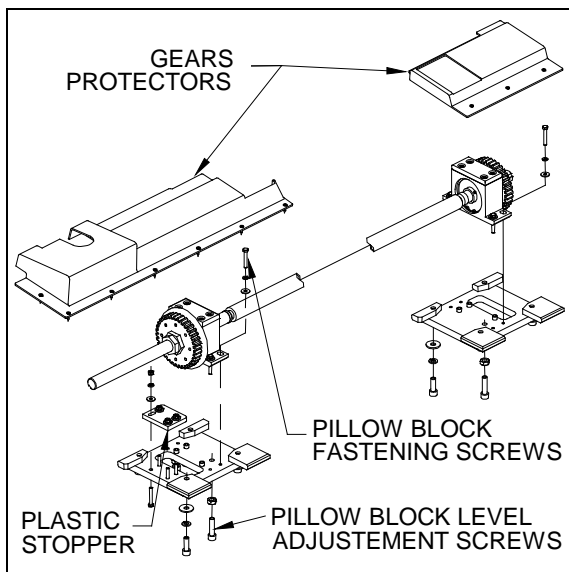
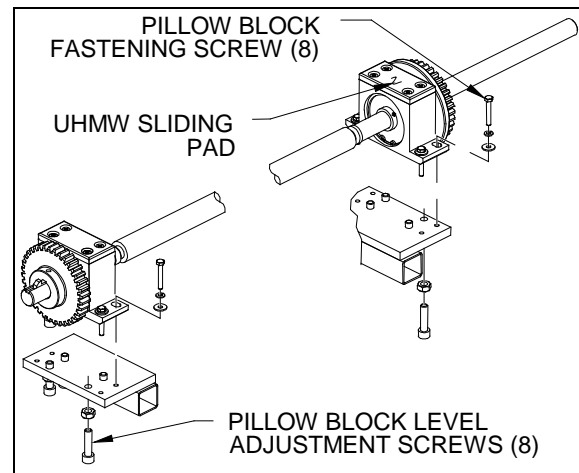

FIGURE 26 : FRONT SLIDE-OUT SLIDING PAD LEVELLING
FIGURE 27 : REAR SLIDE-OUT SLIDING PAD LEVELLING
There is a UHMW plastic stopper used to block any axial movement of the front slide-out lower shaft (figure 26). This stopper must be adjusted 1/32" away from the pinion.
3. Check and make sure that the UHMW sliding pad and the vehicle frame structure are parallel and within a distance of 22.2mm (7/8") (figure 48). If not, an adjustment is needed. To adjust the rear slide-out UHMW sliding pads and the front slide-out motor side UHMW sliding pad, use the pillow block adjustment screws located under the fixation plates (figure 26 and figure 27). To adjust
the front slide-out UHMW sliding pad located on the driver side, add or remove shims under the pillow block (figure 26).
4. Make sure both pillow blocks are at the same distance from the structure and tighten the pillow block fastening screws and the adjustment screw jam nut (figure 26 and figure 27).